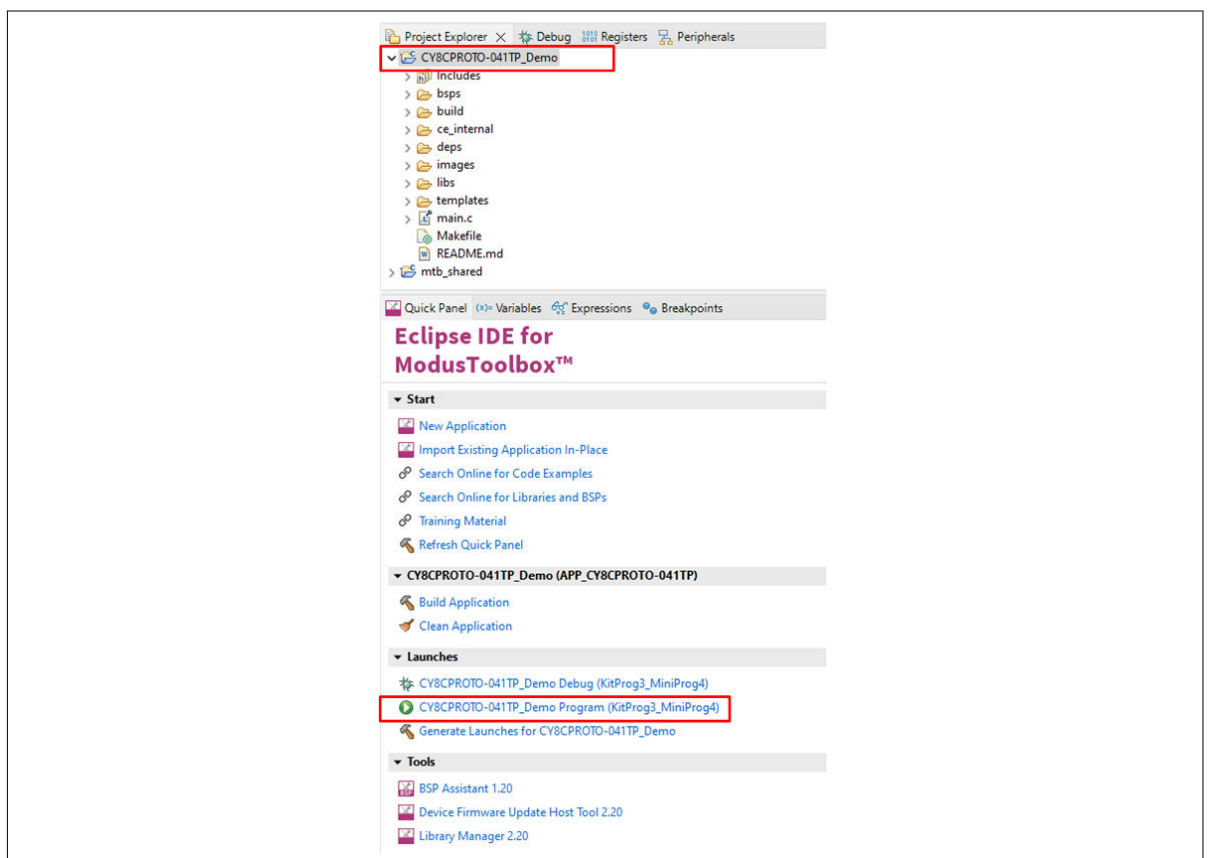

Figure 16 Building and programming the code example
4. In the **Quick Panel** tab, navigate to the **Launches** section, and click the **<App_Name> Program (KitProg3_MiniProg4)** configuration, as shown in Figure 16